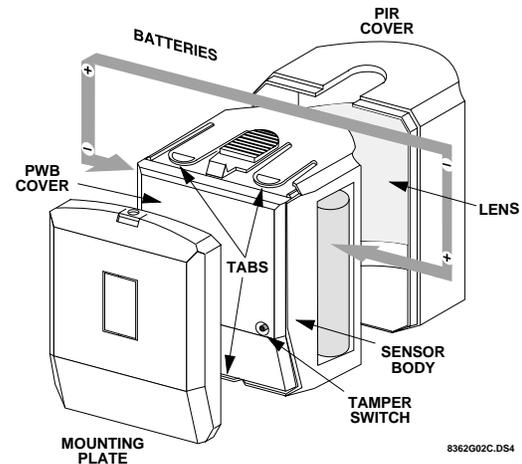

Figure 8. PIR Components, Battery Locations, & Tamper Switch
2. Remove the cover by depressing the two tabs on the top and the one tab on the bottom of the sensor body and sliding the cover off (see Figure 8).
3. Remove the front cover of the sensor by depressing the two tabs on the top and the one tab on the bottom of the sensor body and sliding the cover off (see figure 8).
When battery replacement is necessary, observe proper polarity (as shown in the battery compartment), or the sensor may be damaged. The 60-700-95R and 60-700-95R-OD SAW PIRs require two AA alkaline batteries and the 60-703-95 Crystal PIR requires only one AA lithium battery which can be placed in either battery compartment. Remove the mounting plate and cover to reveal the battery compartments shown in Figure 8. Be sure to note that as you look at the battery compartment, on the left side the positive side is down and on the right side the positive end is up. When the batteries are replaced, wait at least 3 minutes after installing the batteries before activating the walk test mode.